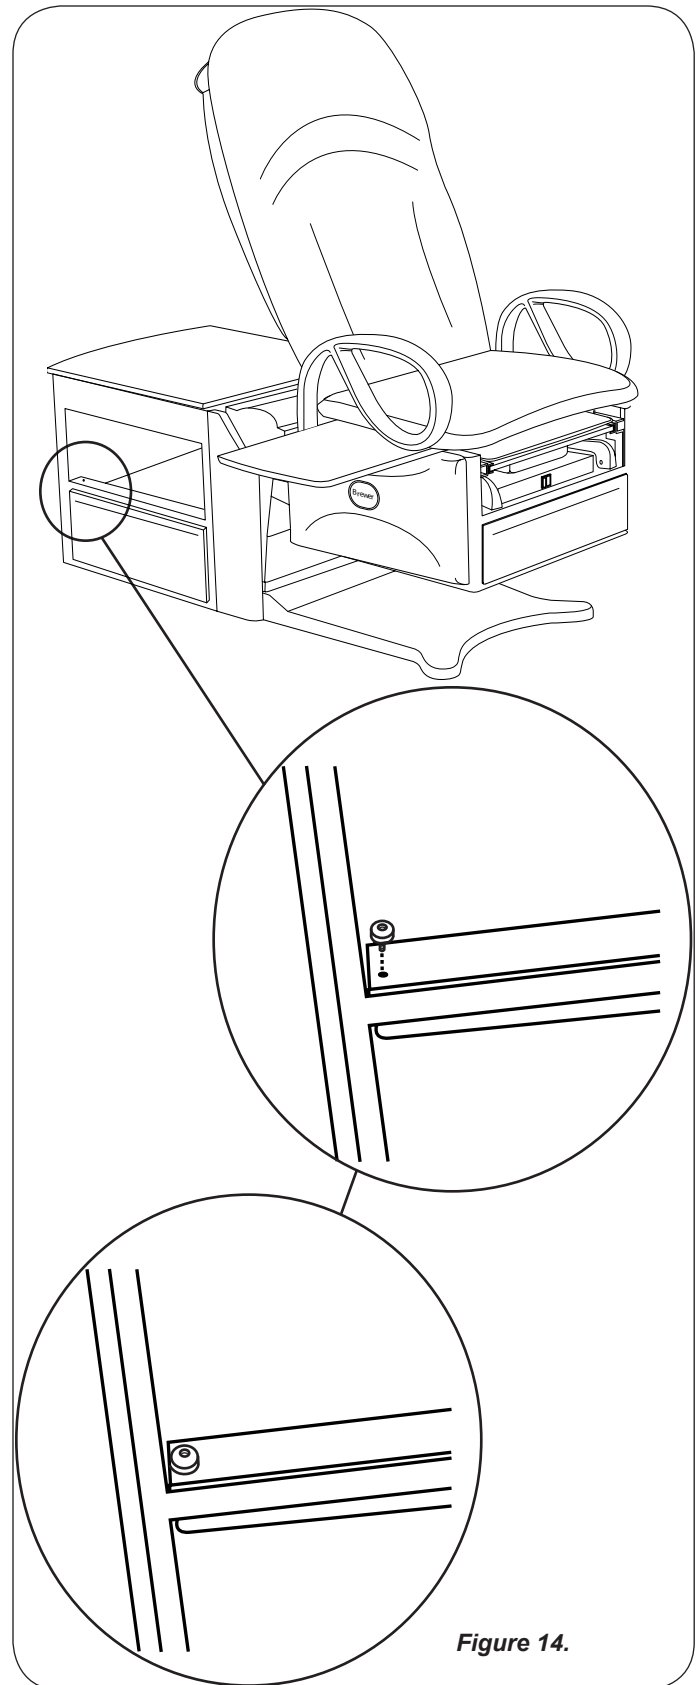

Figure 14.
The Brewer Access High-Low Exam Tables are supplied with two drawer stops for the side pass through drawers. If you wish to restrict the drawers to opening only on one side, simply install one drawer stop per drawer on the opposite side the drawer is to be opened (See Figure 14.)
1. Screw in one drawer stop, one for each drawer on opposite side of cabinet. (Figure 14).